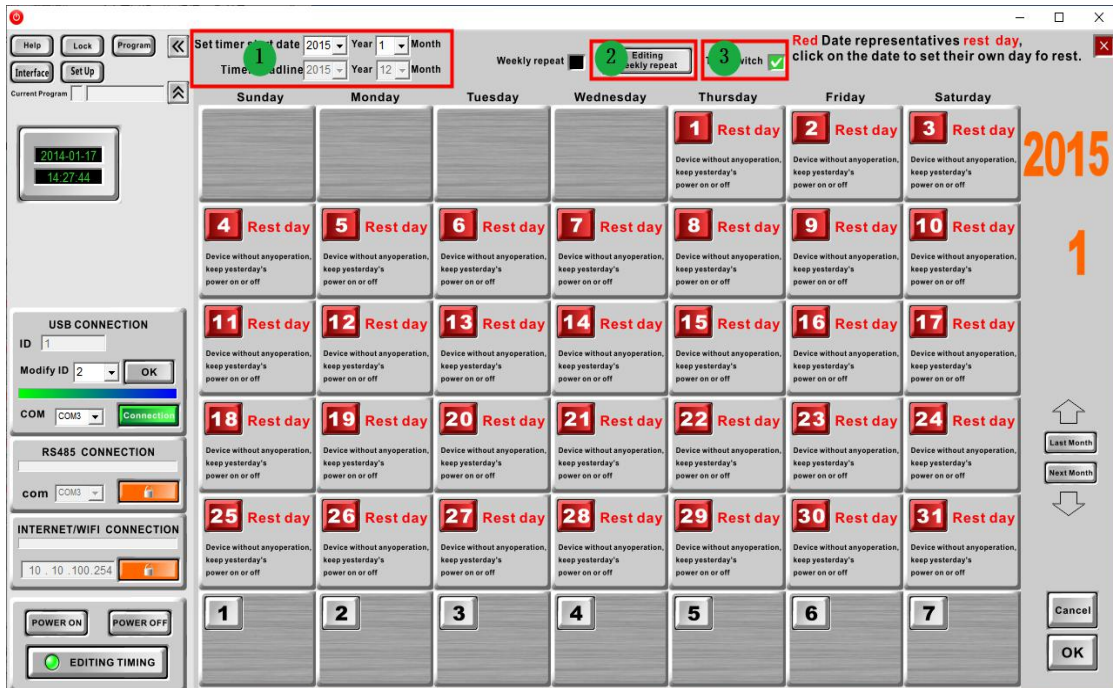
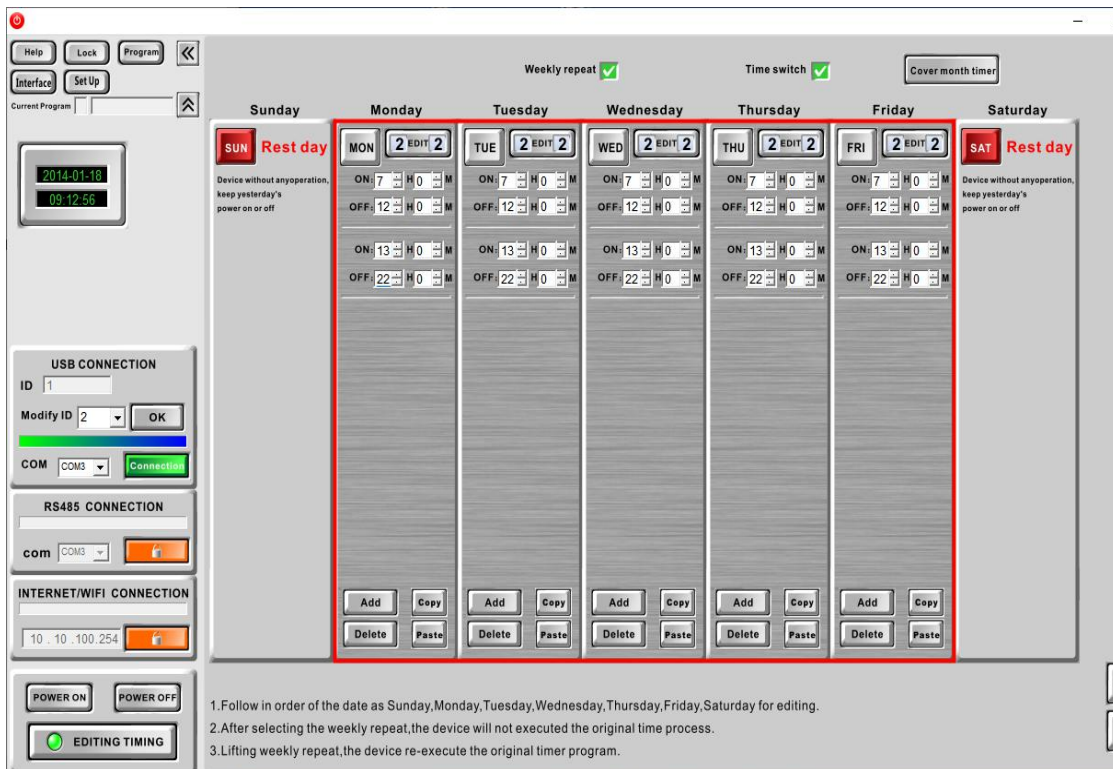

Figure 26
Figure 27
Step 1: Connect the PC software to the device, ①Set the start date to January 2015. ②Check the "Timed on/off" function. ③Click "Edit weekly repeat" (as shown in Figure 26), and edit all data as shown in Figure 27.